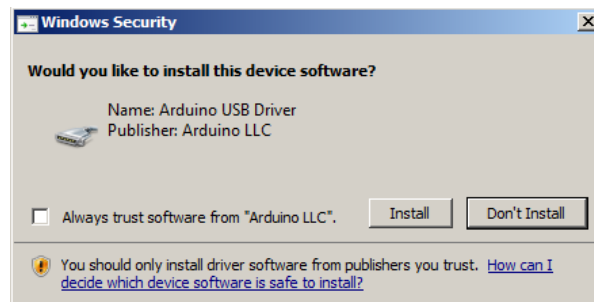

Figure 4: Confirm the driver installation.
5. The wizard will look for drivers in the specified folder and start installing them. A window will pop-up to verify that these drivers should be installed (Figure 4). Click *Install* to confirm.